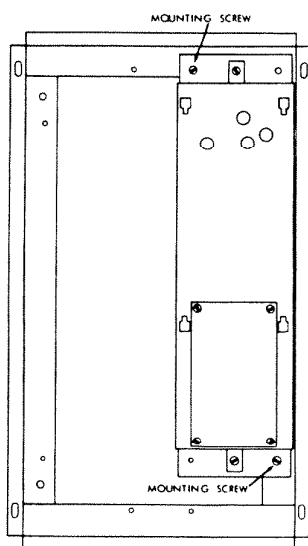

Fig. 3
2. Amplifier is mounted to "A" housing as shown in Figure 3 with two sheet metal screws.